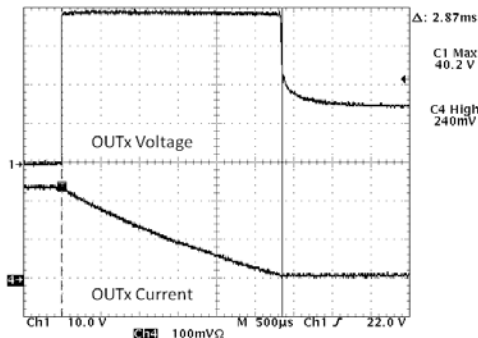

Figure 4. Repetitive Clamping Energy Test
3. Testing particulars, 2M pulses, $V_{bat} = 15\text{ V}$, $63\ \Omega$, 390 mH, $T_A = 25^\circ\text{C}$. (See Figure 4)